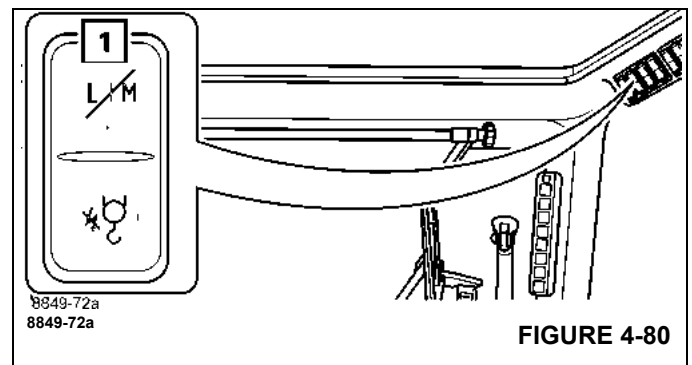

FIGURE 4-80
- Push the button (1), (Figure 4-80) up, and hold it.